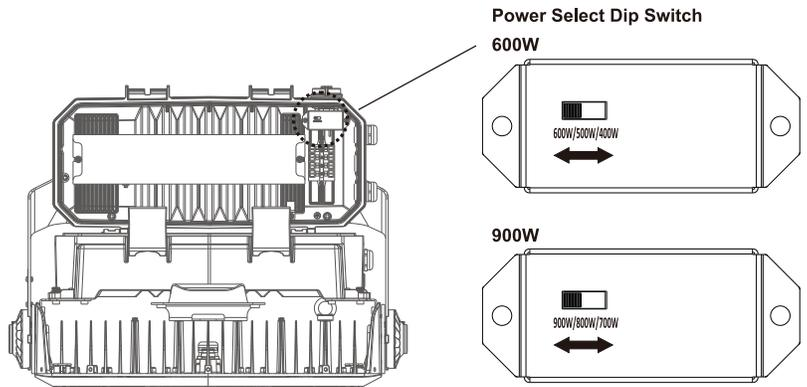

Fig. 1
1. Use wattage selection switch to select desired power (Fig. 1).